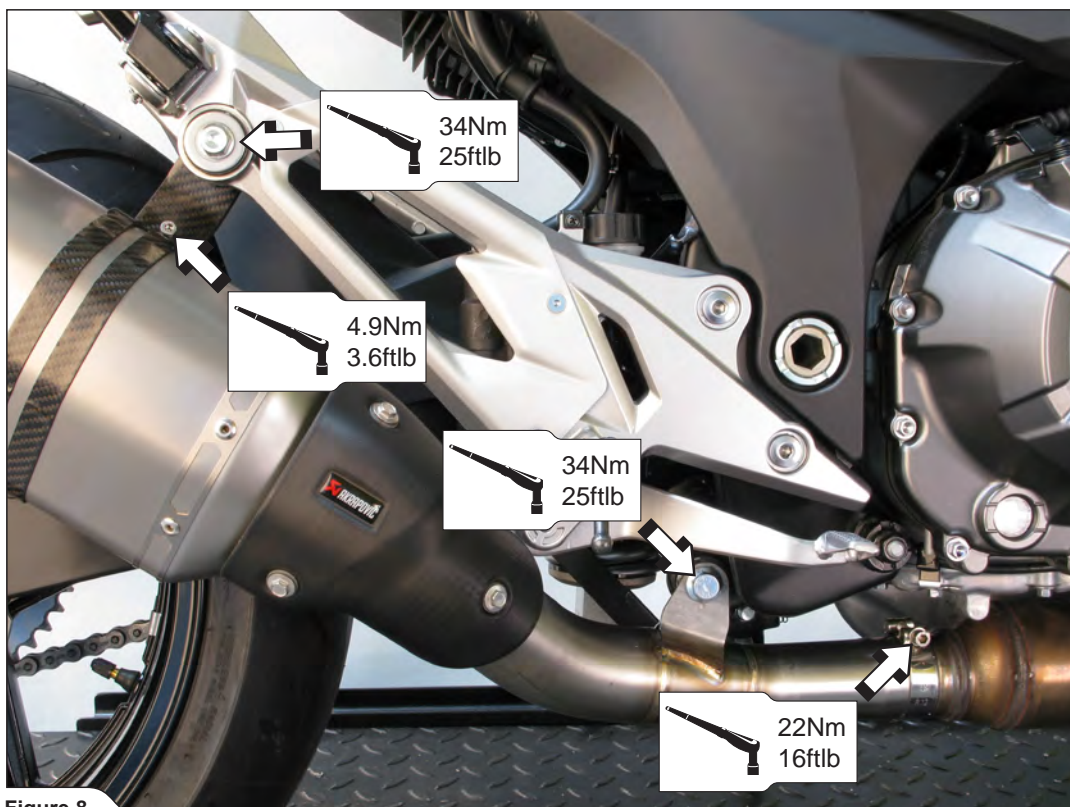

Figure 8
5. Align the muffler in respect to the motorcycle and tighten the muffler's bracket bolt, link pipe's bracket bolt and clamp to the specified torques (Figure 8).